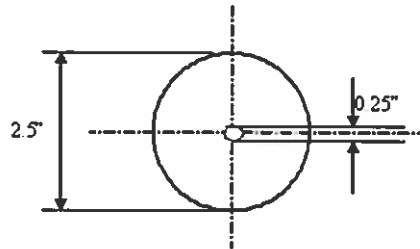

Figure 1. Polymer part.
2. 500,000 parts made of polypropylene (PP), shown in Figure 1 need to be fabricated by your company. A member of the group has setup the injection mold machine to fabricate the parts, but did not have time to begin processing the parts. You are tasked with fabricating the first few batches of parts.